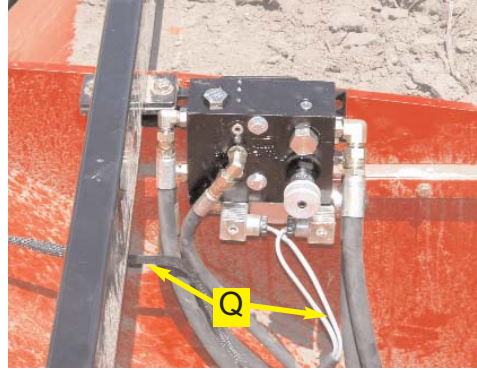

Figure 8a. Installed valve cable at the automated steering block.
Route the valve control cable (Q) from the automated steering block, forward, under the cab and through the access hole in the right rear corner of the cab floor. (Figure 8a. and 8b.)